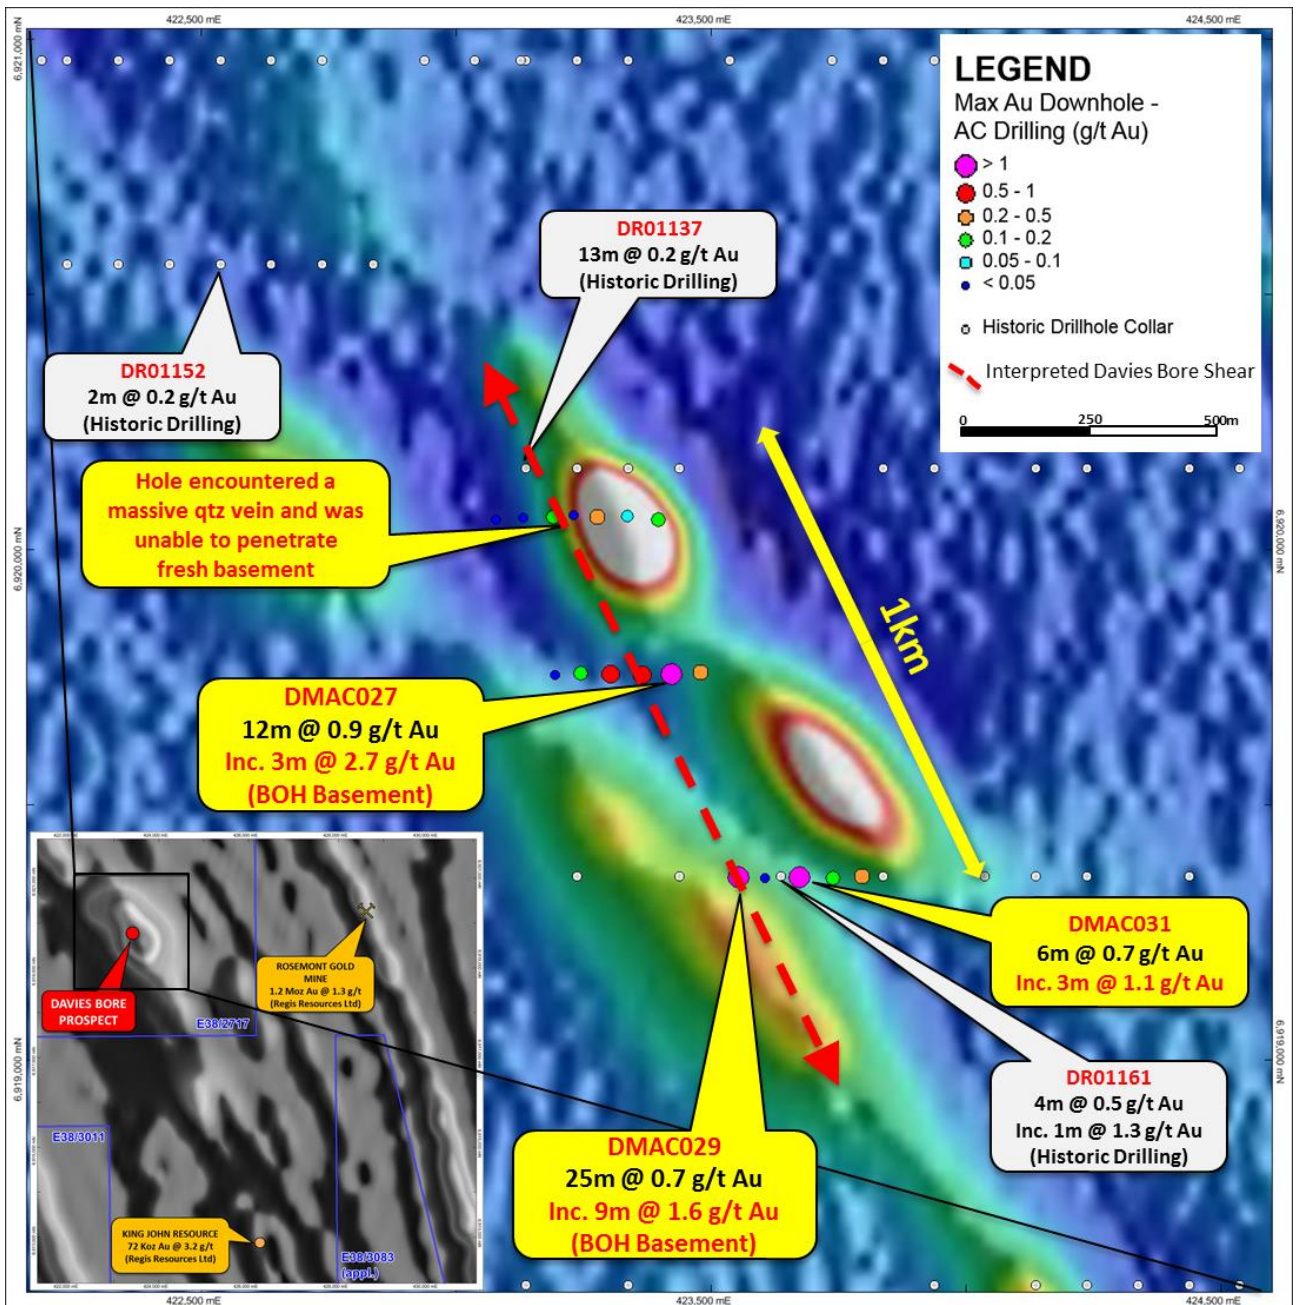

Figure 1. Davies Bore Prospect showing Max Au in aircore holes over magnetics.
- Davis Bore prospect is on Duketon's 100% owned Kulguddi Project (Figures 1 & 2)
The Davies Bore Prospect is located 3km west of Regis Resources Ltd (ASX: RRL) owned Rosemont Mine and approximately 5km north west of King John Resource (RRL) (Figure 1 & 2) .